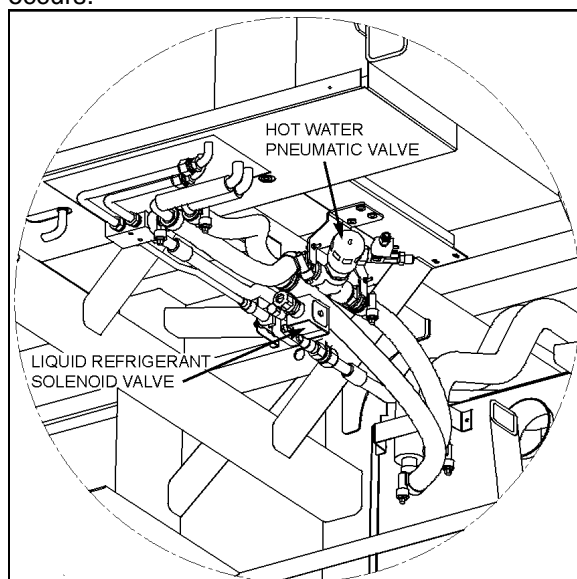

FIGURE 66: CEILING OF THE SPARE WHEEL COMPARTMENT
The flow of hot water to the driver's unit heater core is controlled by a normally-open (NO) pneumatic valve like. The valve, located at the ceiling of the spare wheel compartment (Figure 66), is designed so that the pilot solenoid valve, which is part of the assembly, opens and closes
2. Locate the normally open hot water pneumatic valve on the ceiling of the spare wheel compartment (Figure 66), disconnect its wiring connector, and then connect a 24-volt external power source, using jumper cables, to close valve.